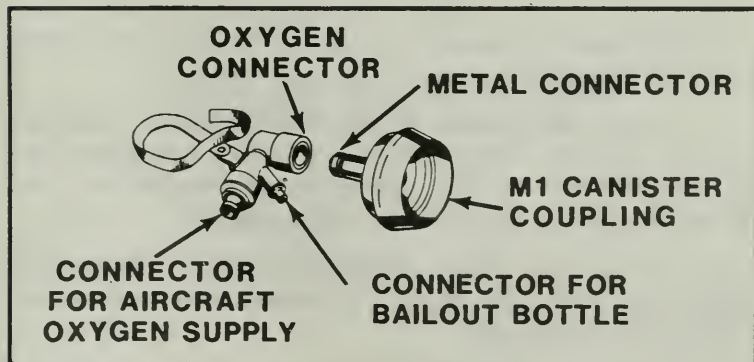

Figure 264. Oxygen supply adapter.
k. Oxygen supply adapter (M24 only). Look at the oxygen connector for burrs, cracks, dents, or corrosion. Be sure the oxygen supply adapter is free of oil, grease, or dirt which could catch fire in contact with the oxygen under pressure (Figure 264).